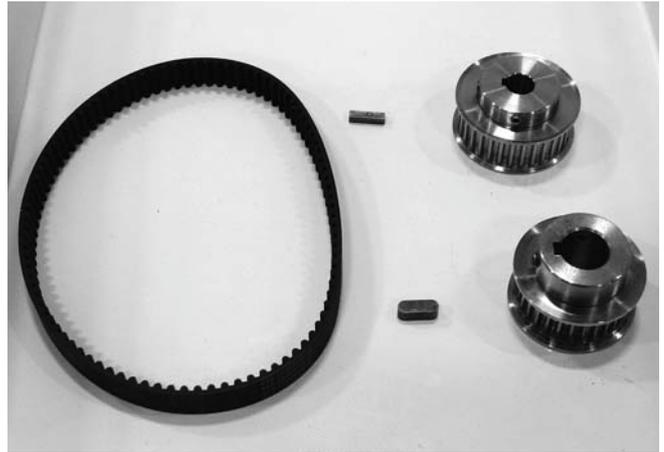

Figure 49
5. Replace components, as needed (Figure 49).